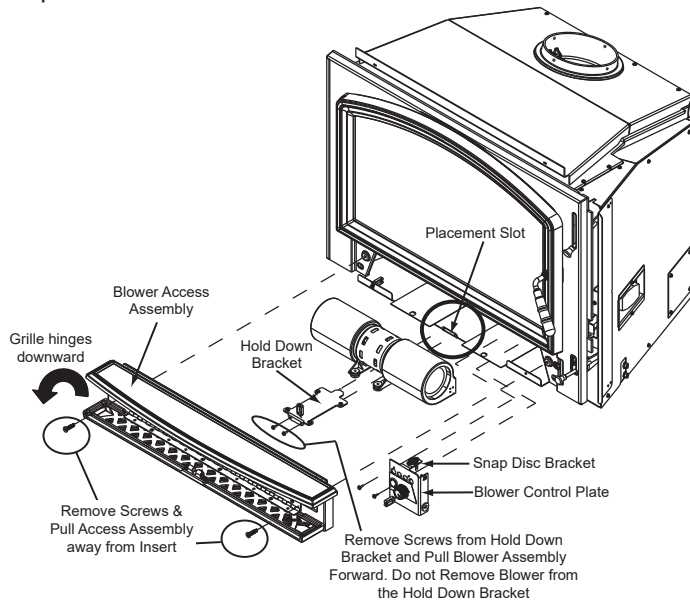

Figure 23.1
1. The grille on the blower access assembly is hinged. Swing the grille downward to expose the 2 screws (**Figure 23.1**).